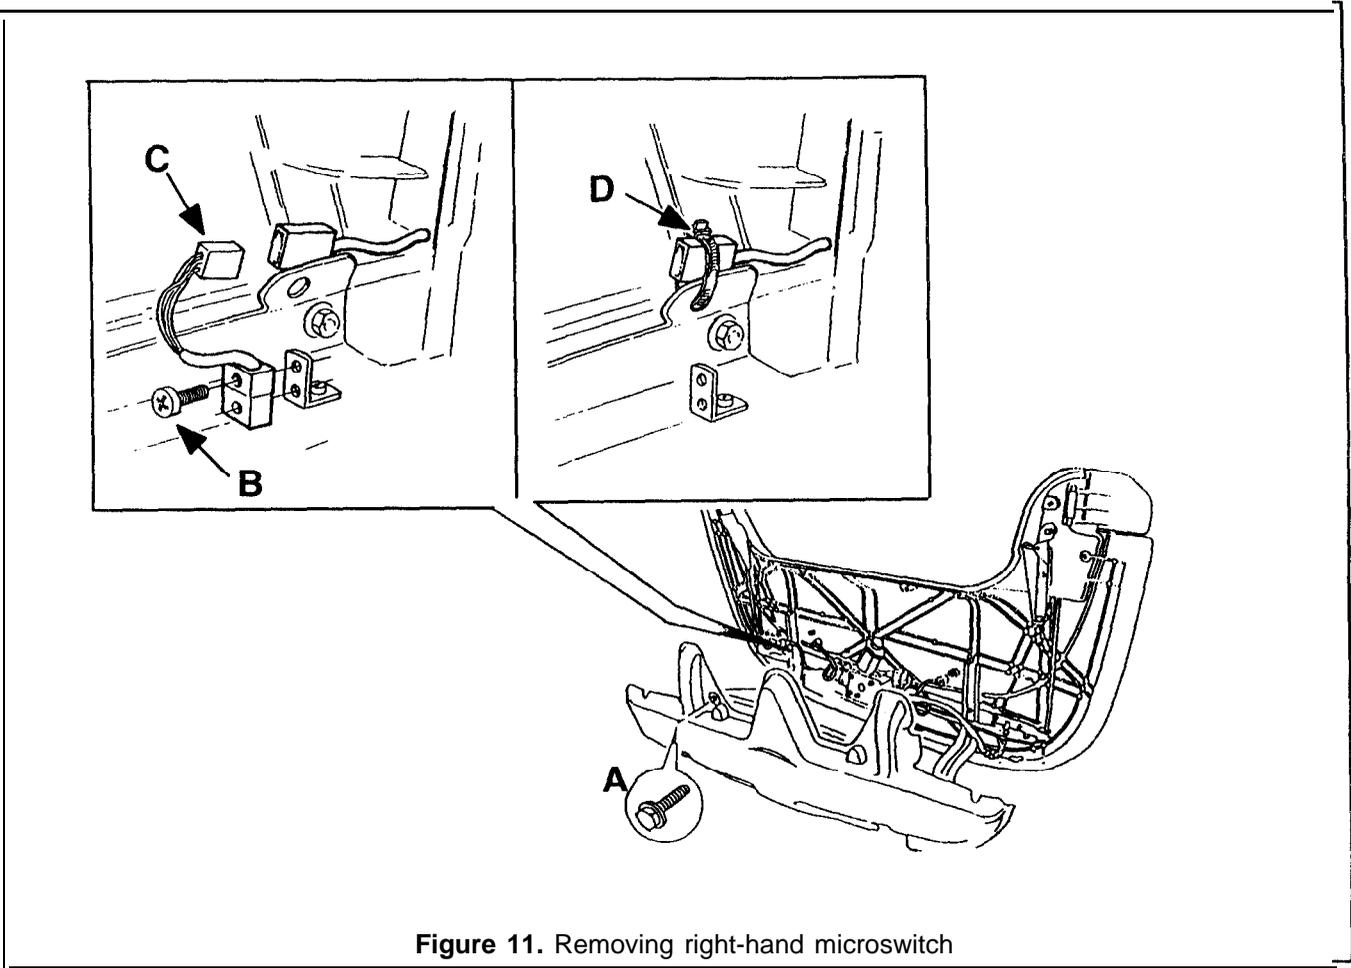

Figure 11. Removing right-hand microswitch
14. Remove the covering shell as indicated in Figure 11 .A.
15. Remove the screws securing the right-hand microswitch as indicated in Figure 11 .B.
17. Unplug the connector. See Figure 11 .C.
20. Fasten the wiring into place using a cable tie. See Figure 11 .D.